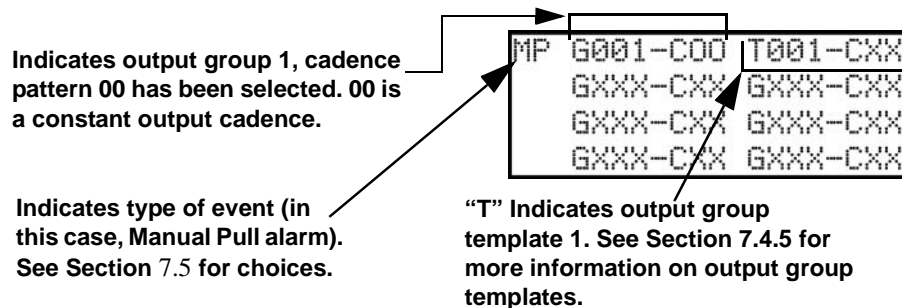

Figure 7-4 Selecting Output Groups/templates and Cadence Patterns for a Zone Event
Note: Abbreviations in the parentheses are the characters that are displayed in programming (see Figure 7-4).
6. A screen similar to the one shown in Figure 7-4 will display. Select the event type you want to program using the Up or Down arrow and press ENTER.
8. Select options for each event that could occur in this zone. Figure 7-4 is a complete example of how you might map a zone.